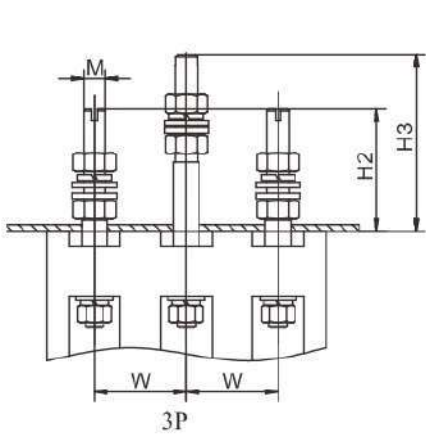
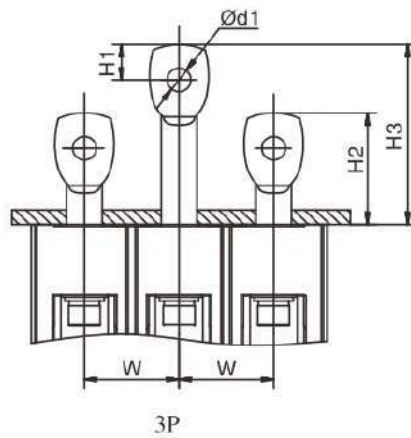
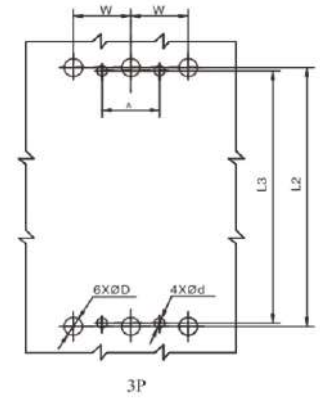
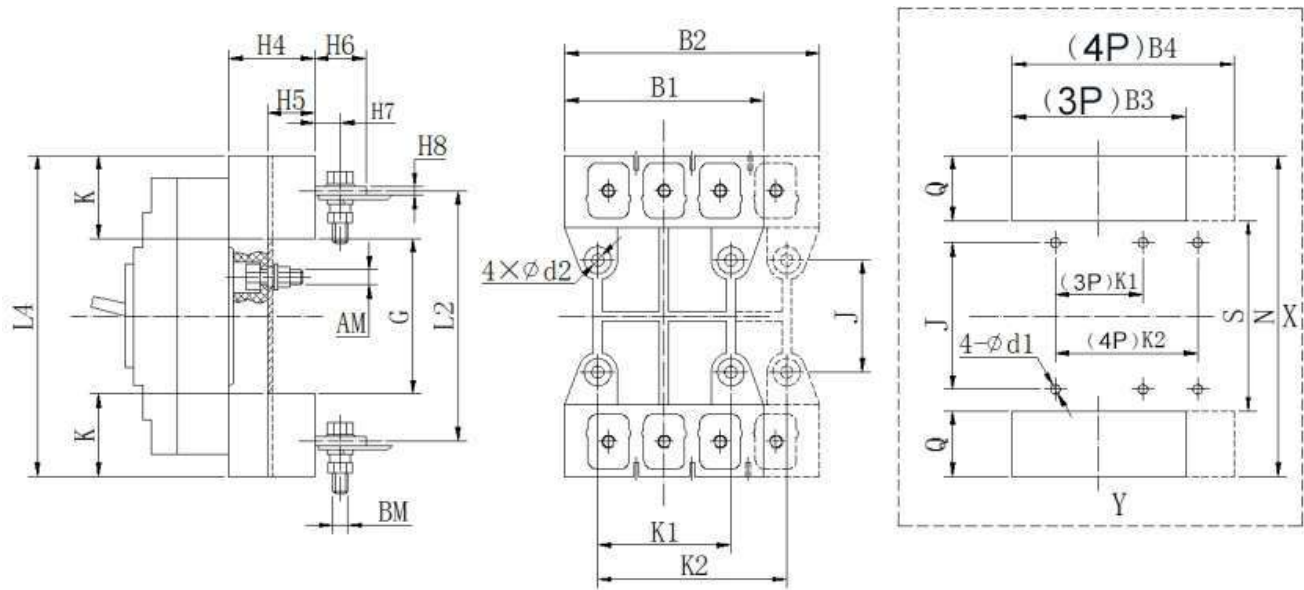

Fig.21 Back board wiring shape and installation size of EXM3-160 board
Fig.22 Back board wiring shape and installation size of EXM3-250, 400, 630, 800
Fig.23 Opening hole drawing of back board wiring
Fig.24 EXM3 Series plug-in shape and installation size
- 6.2 The rear wiring,plug-in shape and installation size of EXM3 series circuit breaker are shown in Fig.21, Fig.22, Fig.23, Fig.24 and Table 12.